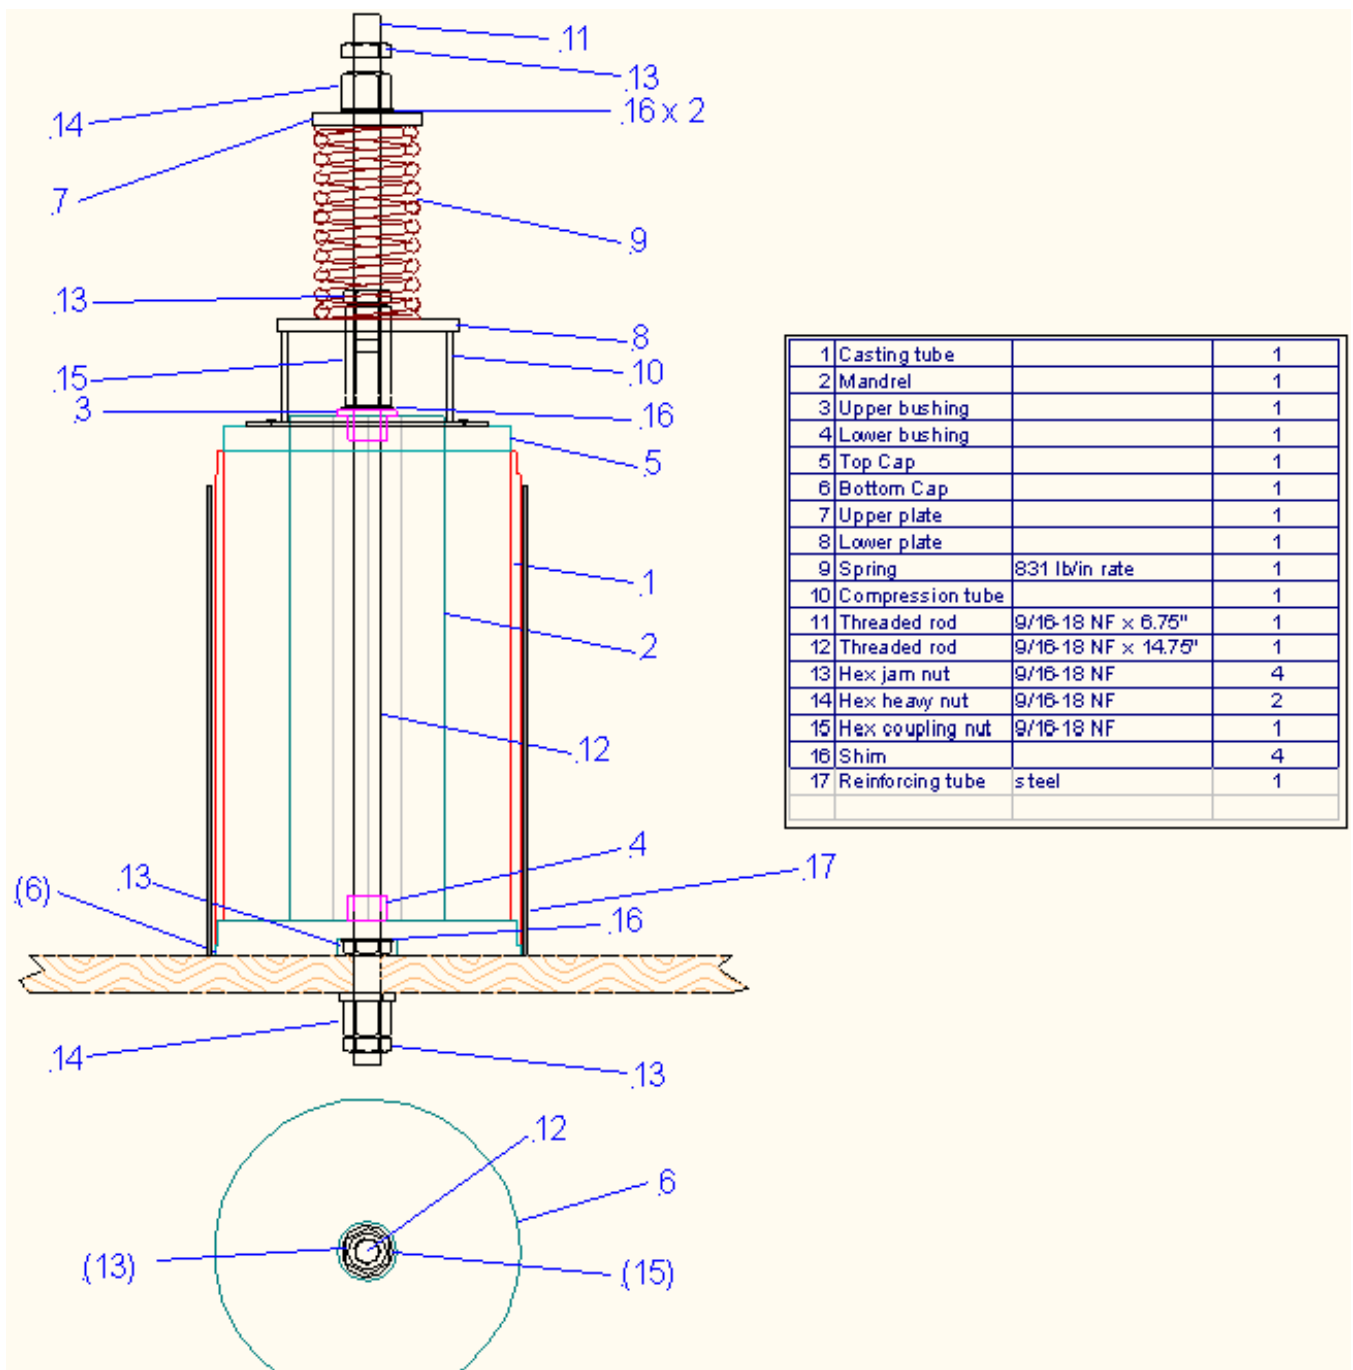

Figure 3 – Casting mould arrangement.
14. As illustrated in Figure 3, install upper threaded rod into coupling nut and secure with jam nut.